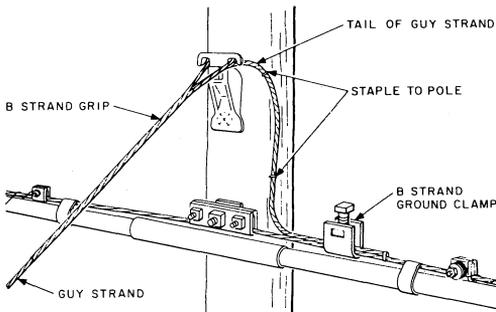

**Fig. 12—Assembled Guy With Tail Secured**
- (1) Assemble the upper part of the guy on the ground, leaving approximately 3 feet of extra strand as a tail.
- (2) Bend the tail to its approximate final shape and tape it to the main part of the guy **before** raising it (Fig. 12).
- (3) Secure the guy to the pole and the anchor **before** making the connection.
- (4) Untape the tail and connect it to the suspension strand with a B strand ground clamp. Use a D or C connector on self-supporting cable strand.
- (5) **Caution: On joint-use poles, the length of the tail must not exceed 3 feet so it cannot accidentally whip up into the power wires.** Staple the guy tail to the pole; space the staples from 1 to 2 feet apart.